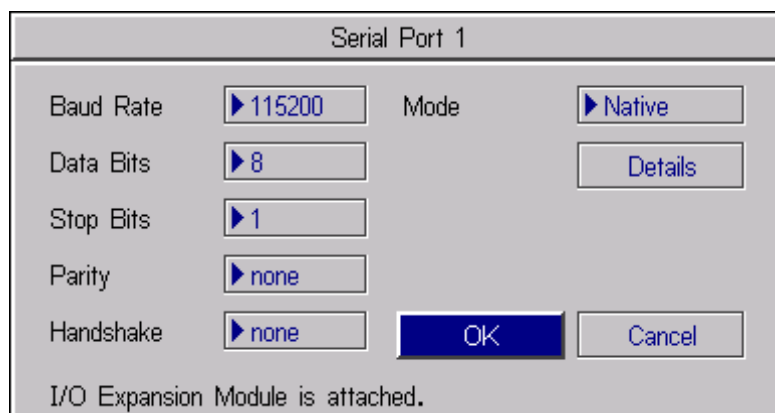

Figure B-5: Serial Port Dialog (PC Host)
3. Select Serial Port 1 to open the Serial Port 1 dialog (Figure B-5).